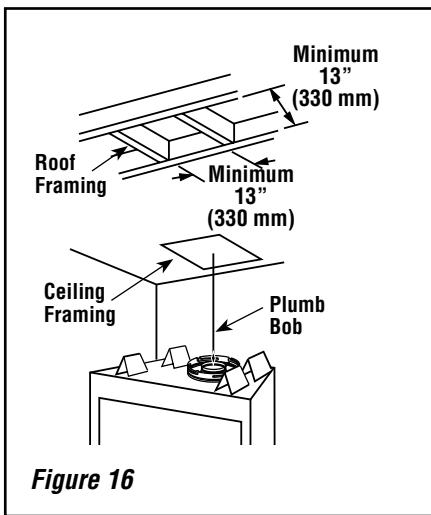

Figure 16
A. Frame ceiling opening—Use a plumb line from the ceiling above the appliance to locate center of the vertical run. Cut and/or frame an opening, 13" x 13" (330 mm x 330 mm) inside dimensions, about this center mark (**Figure 16**).
D. Attach vent components to appliance—To attach a vent component to the appliance collar, align the dimpled end over the collar, adjusting the radial alignment until the four locking dimples are aligned with the inlets of the four incline channels on the collar (*refer to Figure 16 on Page 16*).